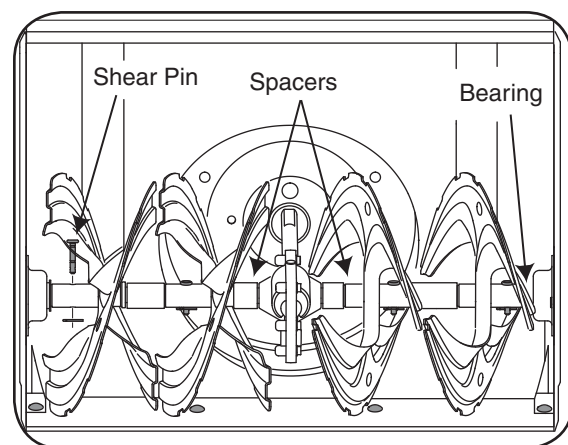

Figure 6-2
At least once a season, remove the shear pins on auger shaft. Spray lubricant inside shaft, around the spacers. Also lubricate the flange bearings found at either end of the shaft. See Figure 6-2.
- The augers are secured to the spiral shaft with shear pins and cotter pins. If the auger should strike a foreign object or ice jam, the snow thrower is designed so that the pins may shear. Refer to Figure 6-2.